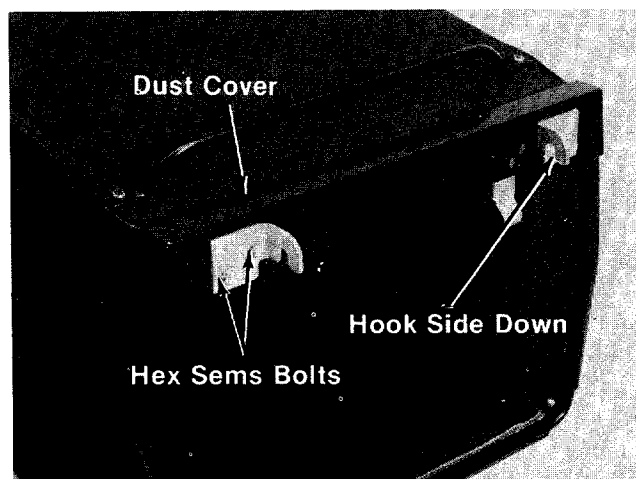

FIGURE 26.
7. Place dust cover (Z) in position on top front of catcher. Place right and left hand hinges (U) in position and secure with hex sems bolts (R), lock washers (S) and hex nuts (T). See figure 26.